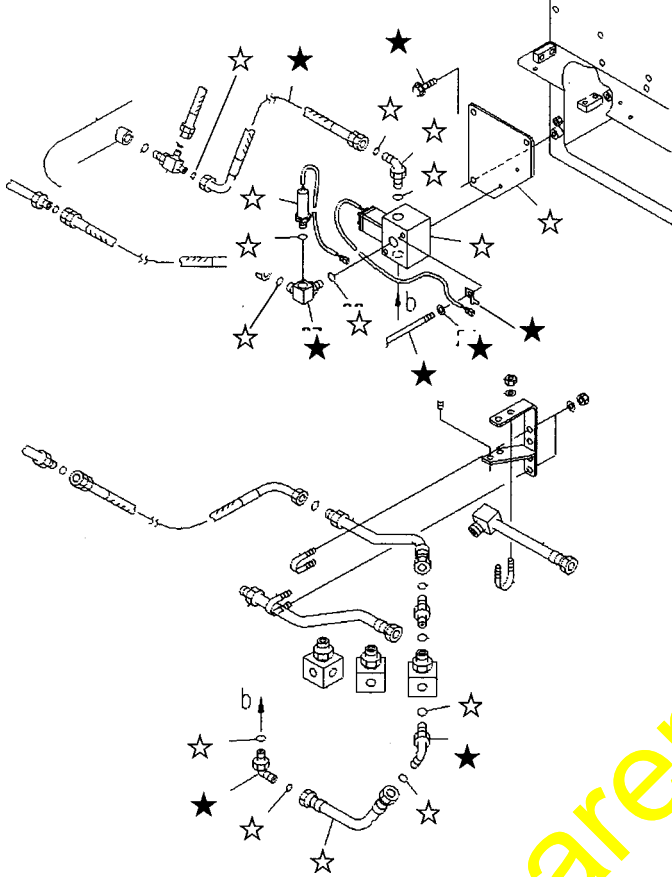
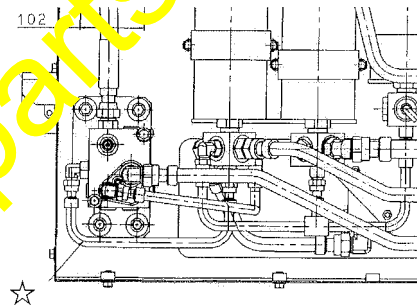

Fig. 4
Fig. 5
- 2) Remove the parts marked ☆ and ★ in the figure shown below. (Refer to Fig. 4 and Fig. 5.)